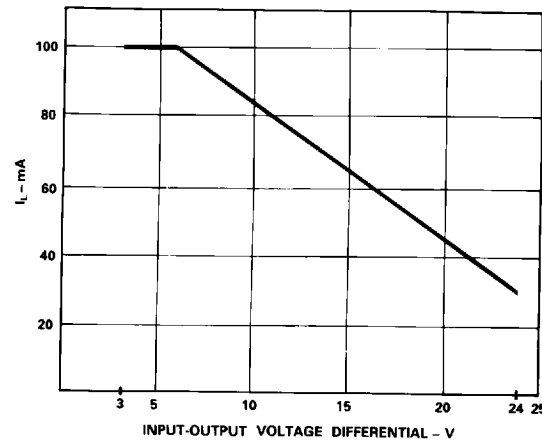
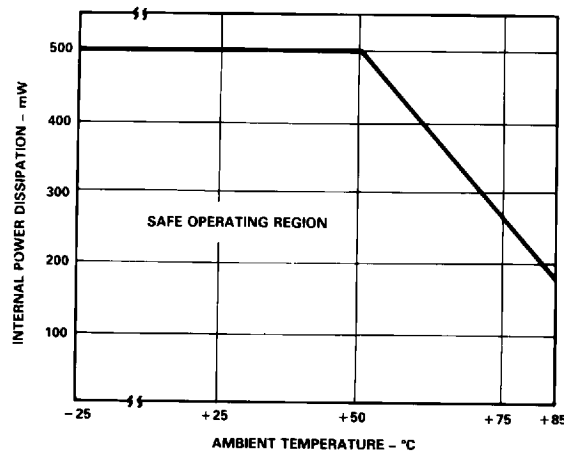

Figure 12. Excitation Source Load Current vs. Input-Output Voltage Differential,  $\le 25^{\circ}\text{C}$
Figure 13. Excitation Source Internal Power Dissipation vs. Temperature
**Bridge Excitation:** The adjustable bridge excitation is specified over a wide regulator input voltage range (+9.5V to +28V). Maximum load current  $I_L$  as a function of regulator input-output differential voltage is shown in Figure 12. The maximum output current also depends on ambient temperature, and above +50 $^{\circ}$ C a derating factor of 2mA/ $^{\circ}$ C must be applied. The safe operating region for internal power dissipation vs. temperature is graphed in Figure 13.